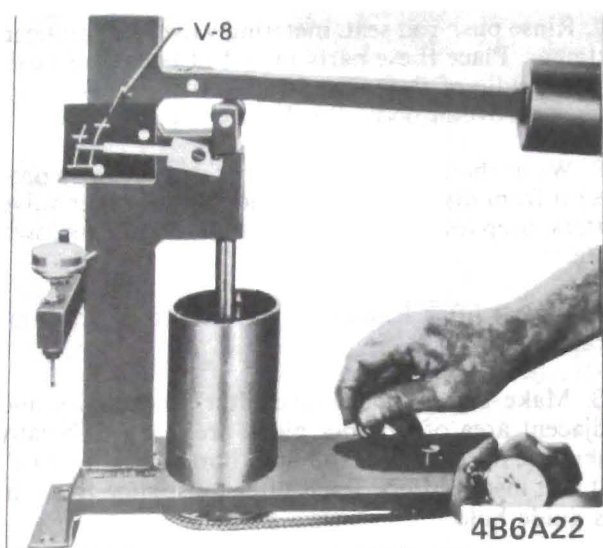

Figure 6A-71 - Checking Lifter Leakdown Rate
4. Lower the ram to rest in the lifter push rod seat, then lower the weight arm to rest on the roller of ram as shown in Figure 6A-71.
The newer Model J-5790 leakdown tester will have a different scale than the one shown in Figure 6A-71. In this case, time the pointer travel from "Start" to the .125 mark on the scale. The leakdown rate must still be between 12 and 60 seconds.